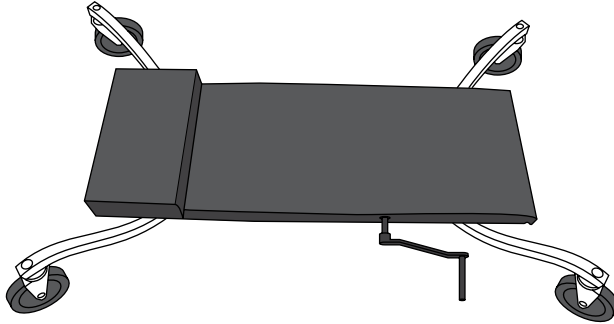

FIGURE 4-7:
- » **Creeper:** A *creeper* (shown in Figure 4-7) is a small platform with wheels that you can lie down on and use to roll around. Creepers are helpful when you need to get up under something. Cost: \$30.